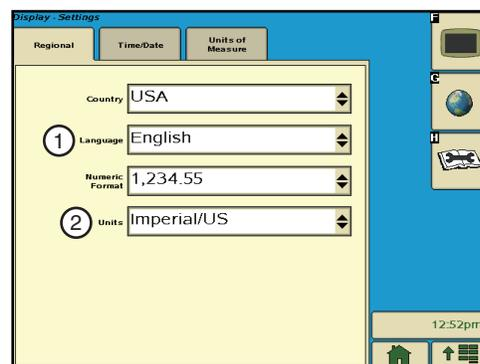

Figure 37-1 1. Language 2. Units
2. On the Display - Main screen, push the **Global (G)** button to display the Display - Settings screen.
3. Push the **Regional** tab to set the Language and Unit of Measure. See Figure 37-1.